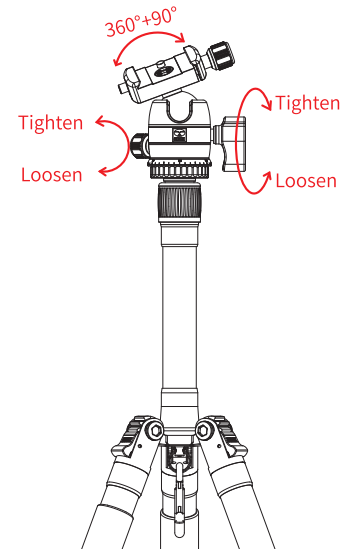

Fig. 5-1
- ① Attach the Camera with Quick Release Plate onto the Ball Head.
- ② Move the Ball Head to the desired position and lock the Main Locking Knob (as Fig.5-1).